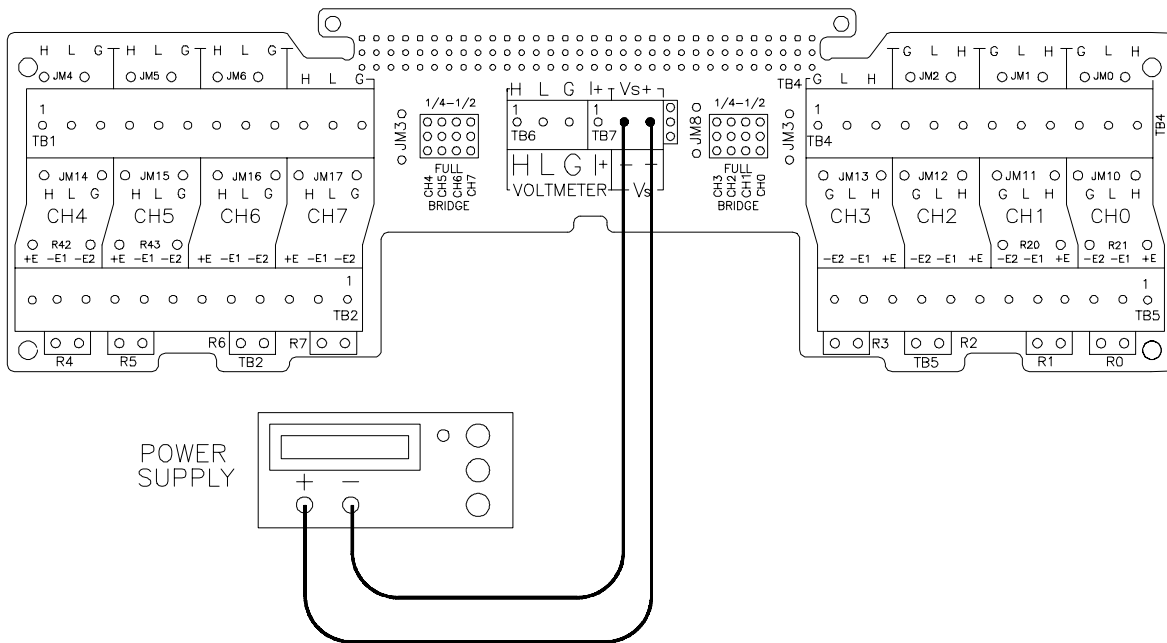

Figure C-1. Externally Supplied Bridge Excitation Voltage
1. If the bridge excitation voltage is externally supplied, connect the supply to the terminal module as shown in Figure C-1. Set the voltage to 5.0V.
1. Connect the bridge excitation voltage to the terminal module as shown in Figure C-1. Set the voltage to 5.0V.